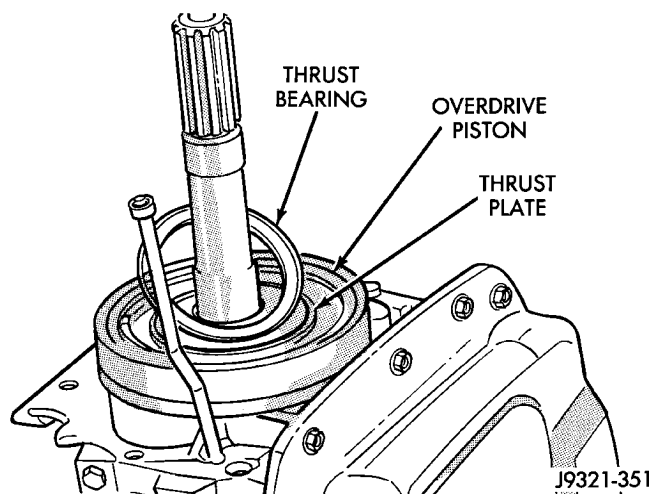

Fig. 194 Overdrive Piston Thrust Bearing Removal/Installation
(2) Remove overdrive piston thrust bearing (Fig. 194).